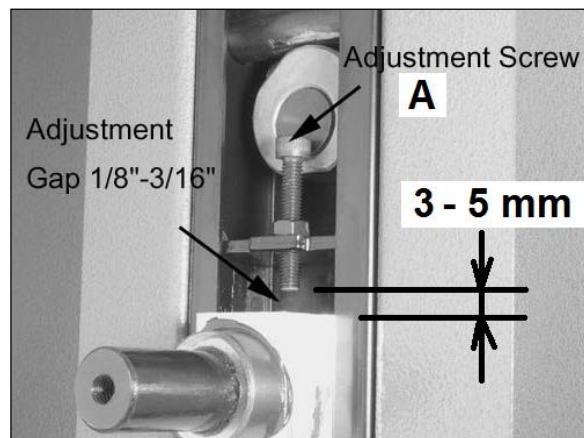

Fig 38
**JWBS-15 and JWBS-18:** Turn adjustment screw (A, Fig 38) until gap between screw and wheel shaft hinge is 3 to 5mm.